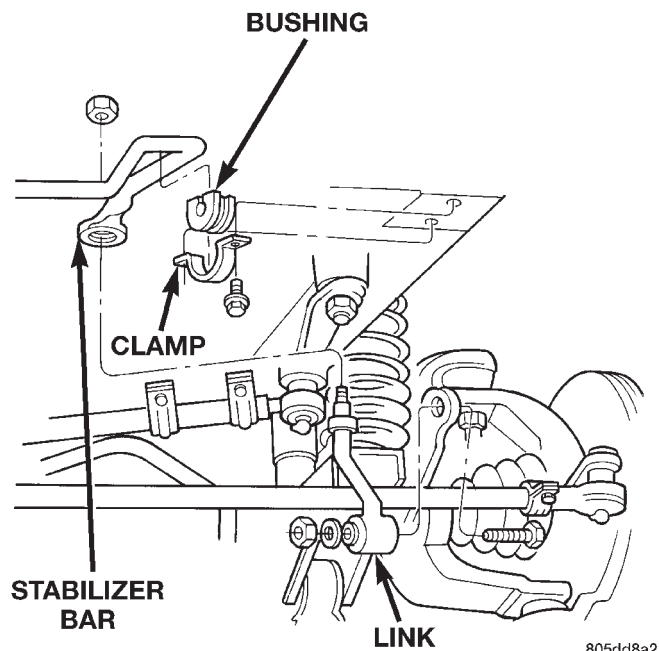

Fig. 7 Stabilizer Bar
(2) Remove upper link nuts (Fig. 7) and separate links from the stabilizer bar with Remover MB-990635.
(3) Remove the stabilizer bar clamps bolts from the frame rails and remove the stabilizer bar.
(4) Remove the stabilizer bar link nuts from the axle brackets (Fig. 7).